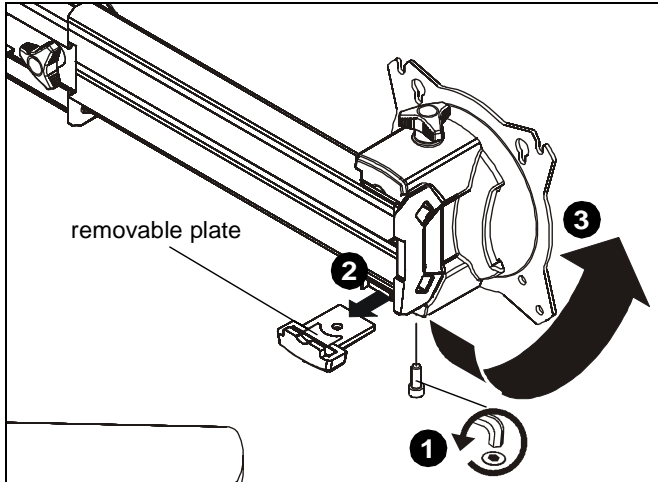

Figure 19
1. Remove hex head bolt from bottom of faceplate assembly. (See Figure 19)
2. Slide out removable plate from bottom of faceplate assembly. (See Figure 19)
3. Remove faceplate assembly from array arm. (See Figure 19)